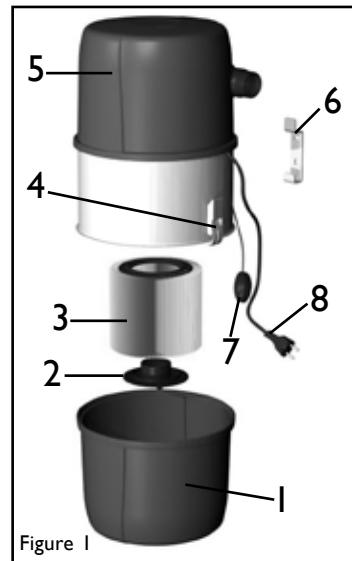
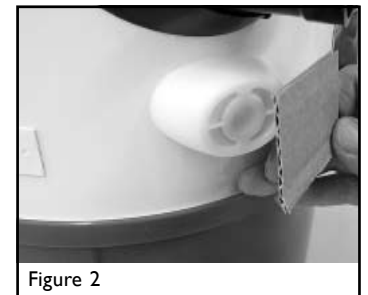

Figure 1
Figure 2
### 2.1 Emptying the Dust Canister (Figure 1)
### 2.2 Servicing the Filter (Figure 1)
There are no parts for the user to maintain inside the central unit's motor housing (fig. 1; 5). We recommend that the need for maintenance and replacement for the electric motor's turbine and other parts inside the motor housing are estimated by an authorised Allaway service dealer after approx. 600 hours of use. This corresponds to approx. 8 years when the device is used an average of an hour and a half per week.
- Locate the blockage by sucking strips of kitchen paper through the wall inlets. If the strips of paper end up in the dust canister, that stretch of the pipe system is clear. Once you have located the blockage, disconnect the central unit and check that there are no blockages in the coupling hoses. Then use the suction hose to connect the suction-side coupling hose to a wall inlet along the blocked stretch (or to the wall inlet closest to the blockage, if the blockage is in the frame pipe). Start the central unit (figure 1; 8) with the help of a piece of metal wire, and go to where the central unit is usually mounted. Block and unblock the suction pipe opening with your hand to send vacuum shocks to the blocked pipe. If the blockage has not become dislodged within 10-15 seconds, disconnect the central unit from the wall inlet to allow the turbine to get some air in between and to stop it from overheating. Repeat the process after approximately one minute.
Close all wall inlets. Start the central unit via the low voltage connector (figure 1; 7) using a piece of metal wire. Block the bypass valve with a piece of cardboard, for example (figure 2). If air is still escaping from the exhaust pipe after approximately 10 seconds, there is a leak in the pipe system. The leak must be located and repaired. Do not run the unit for more than 20 seconds with all of the wall inlets closed. If the installation is completely airtight, the turbine will not receive any air, therefore overheating and possibly incurring damage.